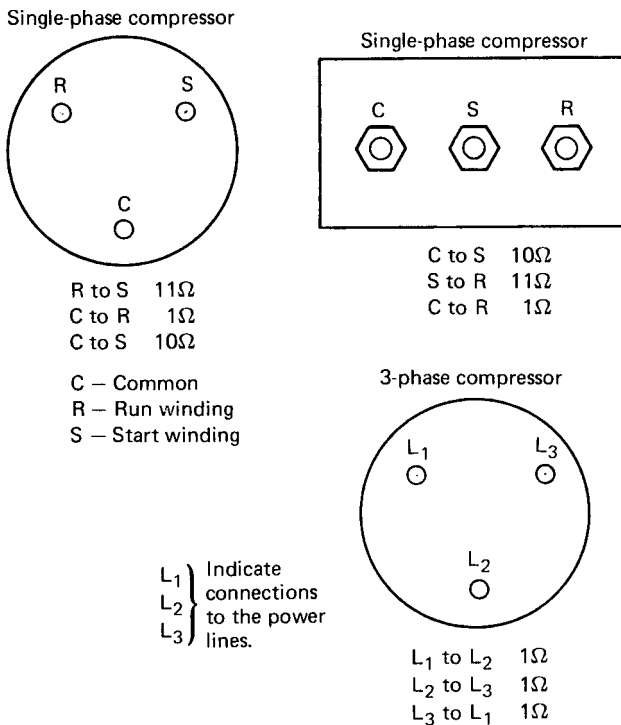

Figure 6-24 Resistances between compressor terminals.
Check Fig. 6-24 for the layout of compressor terminals. Note that the resistance from R to S is 11 ohms. This means that both windings (start and run) are in series and are being added at this point. The reading from R to C is 1 ohm. This means that the run (R) winding has 1 ohm of resistance and is normal. If the reading is less than 1 ohm, it means you have a short in the start winding. The reading from C (common) to S (start winding terminal) is normally 10 ohms. If you obtain infinite for any of these readings, it means the winding is open.